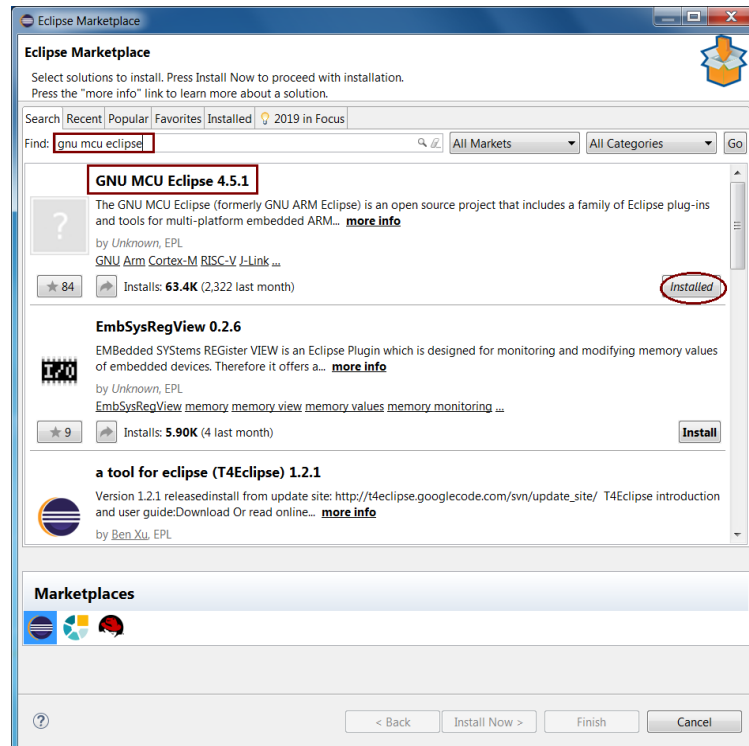

Figure 1-2 Install Plug-in
- Input “gnu mcu eclipse” in the **Find** field, and then the search result will be shown as Figure 1-2. Select the latest version and click the **Installed** button to install the required plug-in.